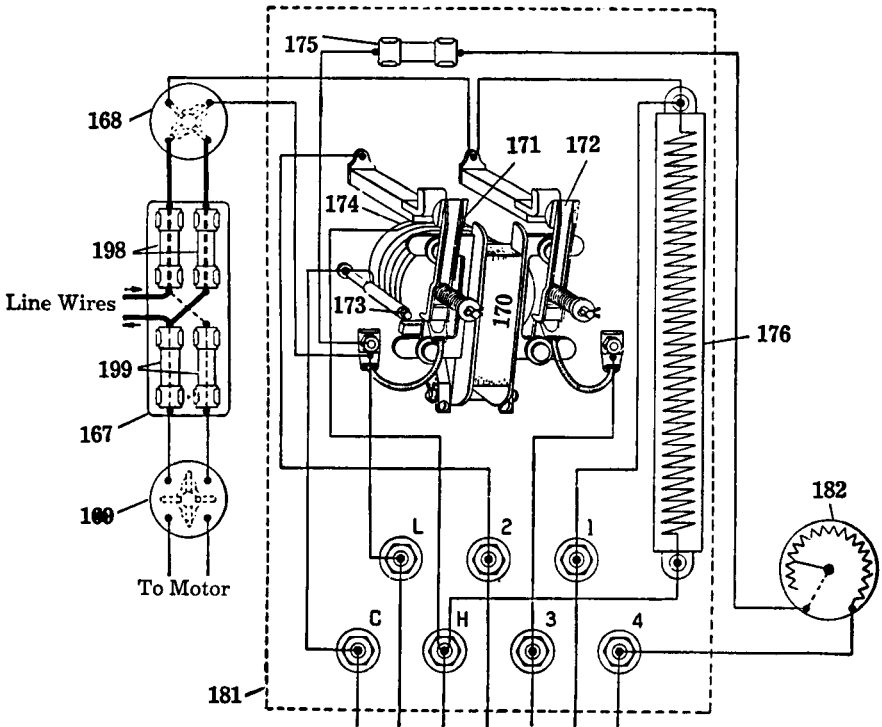

FIG. 20-13. Control Panel Wiring.
**Pot Will Not Heat Up**—See that switch 168, Fig. 17-13, is in the *on* position. Make sure that fuses 198, Fig. 20-13, are intact. Test the line to make sure you have current up to fuses 198. See that contact lever roller head 143, Fig. 16-13, touches contacts *C* and *L* and that these contacts are clean. Note that magnet switch 170, Fig. 17-13, closes when switch 168 is turned to the *on* position and falls open when this switch is turned to the *off* position. If the pot still does not heat, it indicates an open in the connecting wires or in the crucible heater units. Turn the current off by turning switch 168, Fig. 17-13, to the *off* position, remove the pot terminal cover and test from terminal post No. 2 to terminal post No. 3. If your lamp testing outfit will not light between these two terminals it indicates that one or both crucible heaters are open and they must be removed and replaced. Test from terminal No. 3 in panel box to terminal No. 3 on the pot and if the light does not light, the wire in the cable is broken. The same test should be tried for the terminals marked No. 2. An open wire should be replaced with a new one of the same size which is No. 14 R. C. wire. When making the above test if magnet switch 170, Fig. 17-13, does not close when switch 168 is turned to *on* position it indicates that either magnet switch coil 174 or resistance coil 176 is open. You should test these coils out in the same manner as the crucible heaters by connecting the lamp testing outfit to their respective terminals. They may easily be replaced.
*The Fuses Blow—Grounding*—If fuses 198, Fig. 20-13, keep blowing it indicates that some part of the equipment's electric circuit is grounded or short circuited and it will be necessary to locate and rectify this condition before normal operation can be resumed.
If the accidental ground occurs on the same side of the wiring that is purposely grounded, it will cause no harm but if it occurs on the opposite, the fuses will be blown, therefore some serious grounds may be eliminated simply by interchanging the line wires where they are connected to the fuse block 167, Fig. 20-13.
In disconnecting any wiring, be sure that it is properly marked so that it may be reconnected in exactly the same way. *When fuses are replaced, care should be taken that they are of the same ampere rating as the ones removed. Fuses 198, Fig. 20-13, are: for 100-130 volt equipment, two 20 ampere; for 200-260 volt equipment, two 10 ampere.*
**Testing Control Panel**—Fig. 20-13 is a diagram of the control panel only, showing the wiring and the electrical connections. The lines on this diagram represent